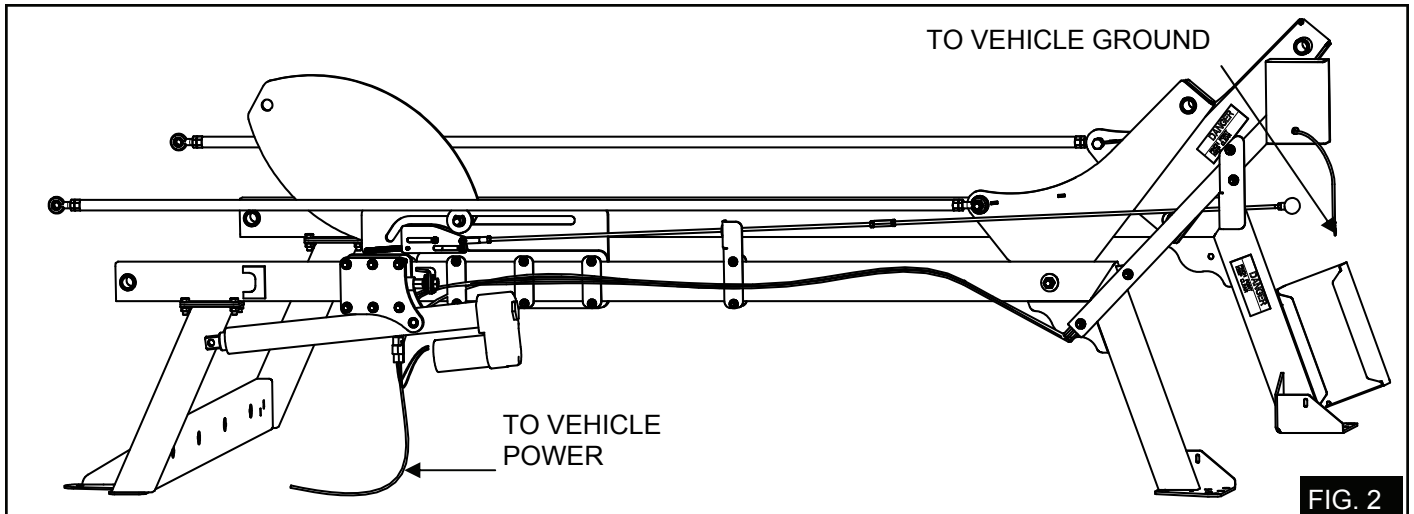

FIG. 2
- 6.3 Attach the control box ground wire to the vehicle ground (usually on the rear drivers side pillar). Attach the power wire from the control box to the vehicle's positive terminal. (See **FIG.2 ON NEXT PAGE**)